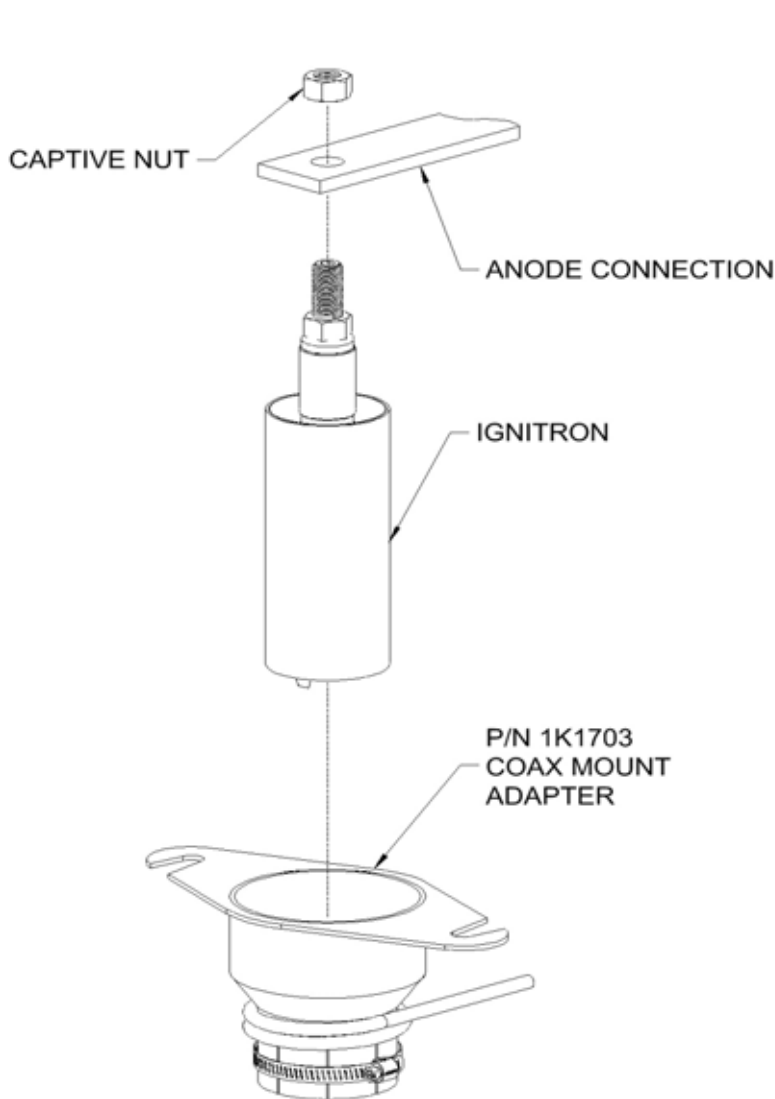

Fig. 1
1. Mount the 1K1703 Coax Mounting Adapter to the chassis of your equipment, See Fig 1.